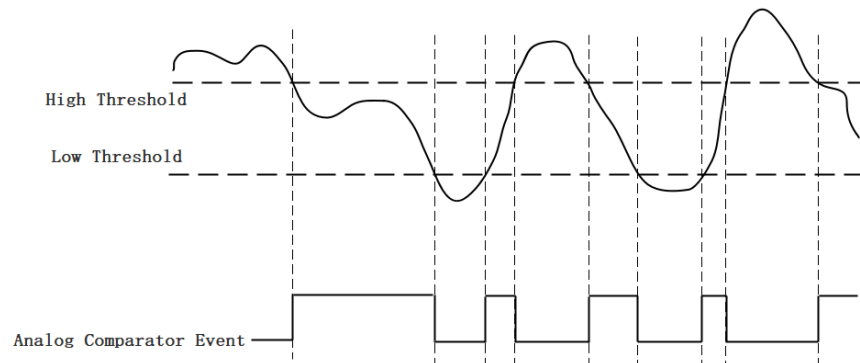

Figure 9 Entering Window Trigger
**Entering Window Trigger:** The window comparator output is high when the signal enters the window defined by the *Low Threshold* and *High Threshold*. The output will change to low when the signal leaves the window as shown in Figure 9.